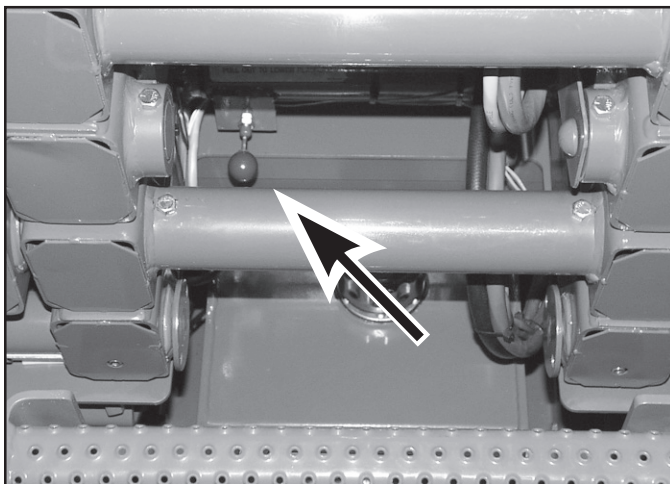

Figure 3: Emergency Lowering Valve Knob
13. Open the Chassis Emergency Lowering Valve (Figure 3) to check for proper operation, by pulling the knob out. When the platform is lowered, release the knob.
The Emergency Lowering Valve Knob is located between the scissors at the rear of the machine (Figure 3).